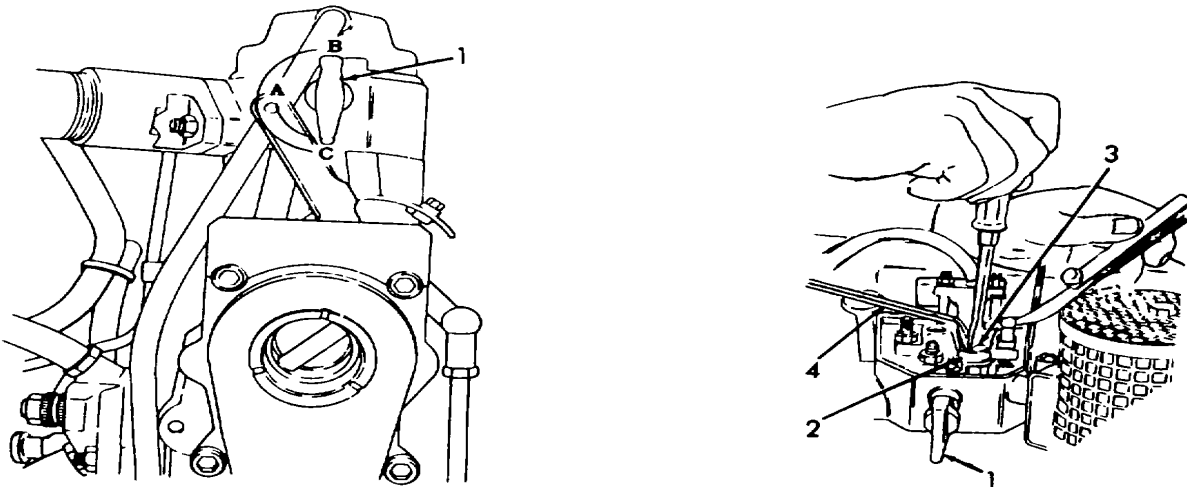

Figure 5-22. Tappet Clearance Adjustment.
e. Adjustment. (Refer to figure 5-22).
- (1) Move decompression lever (1) clockwise to position "C".
- (2) Turn engine clockwise until compression resistance can be felt.
- (3) Check clearance between rockers and valve stem with a feeler gauge. Tappet clearance cold should be 0.004 inch (0.10 mm). To correct clearance loosen nuts (2) using box wrench (4).
- (4) Adjust screw (3) with screwdriver until feeler gauge can be pulled between rocker and valve stem with very slight resistance after nuts (2) have been tightened.